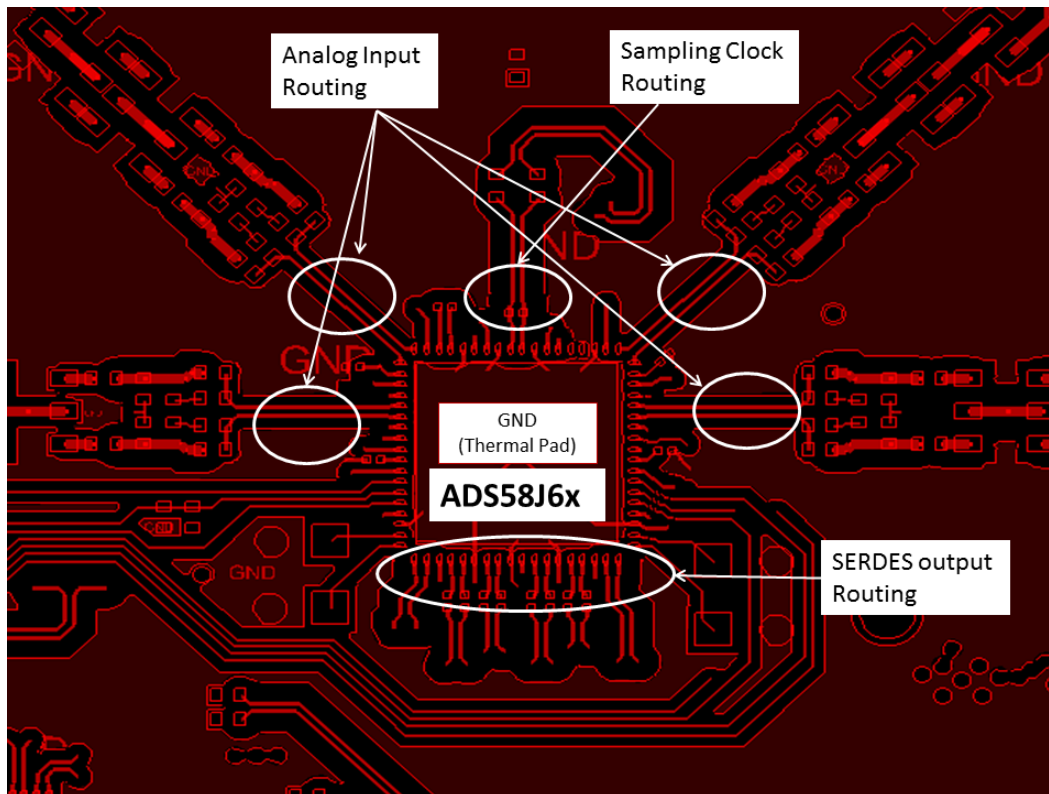

Figure 143. ADS58J63 EVM Layout
The device evaluation module (EVM) layout can be used as a reference layout to obtain the best performance. A layout diagram of the EVM top layer is provided in Figure 143. Complete layout of EVM is available at ADS58J63's EVM folder. Some important points to remember during board layout are:
- Analog inputs are located on opposite sides of the device pinout to ensure minimum crosstalk on the package level. To minimize crosstalk onboard, the analog inputs must exit the pinout in opposite directions, as shown in the reference layout of Figure 143 as much as possible.
- In the device pinout, the sampling clock is located on a side perpendicular to the analog inputs in order to minimize coupling between them. This configuration is also maintained on the reference layout of Figure 143 as much as possible.